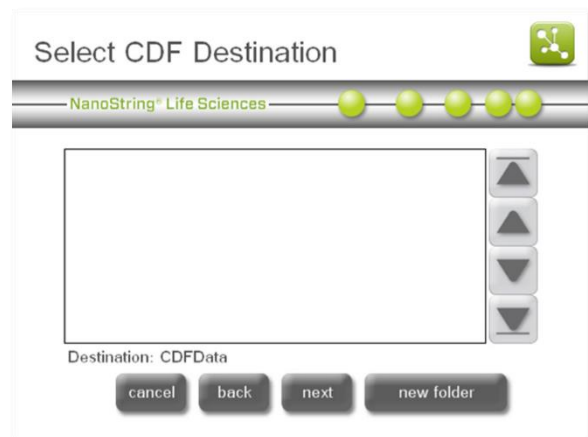

Figure 65: The 'Select CDF Destination' screen.
5. The 'Select CDF Destination' screen will appear (**Figure 65**). Browse to the folder location on the analyzer where the CDF should be saved. Press **save**.